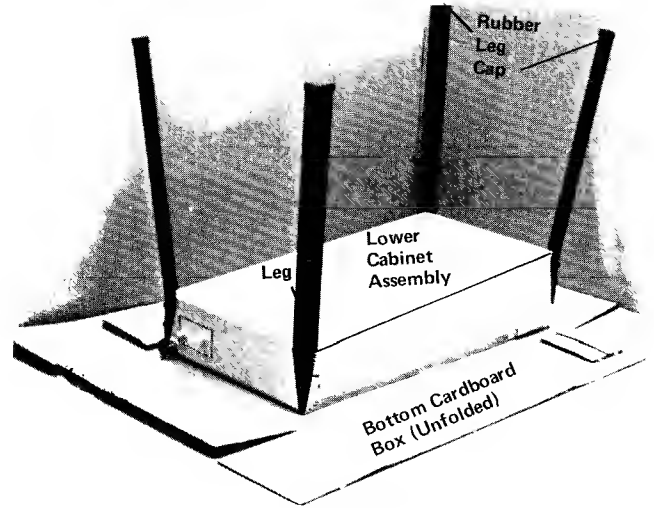

FIGURE 1
2. Carefully turn **lower cabinet assembly** upside-down as shown in **Figure 1**.
3. Securely fasten the 4 **legs** using the 8 Hex Head Machine Screws from the hardware bag, then fit the rubber **leg caps** over the end of the legs. (**Figure 1**)